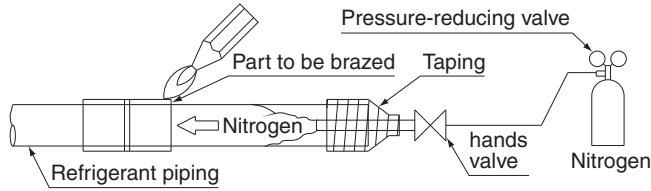

Fig. 6
- When brazing the refrigerant piping, perform nitrogen replacement first, or perform the brazing while feeding nitrogen into the refrigerant piping. (Refer to Fig. 6)